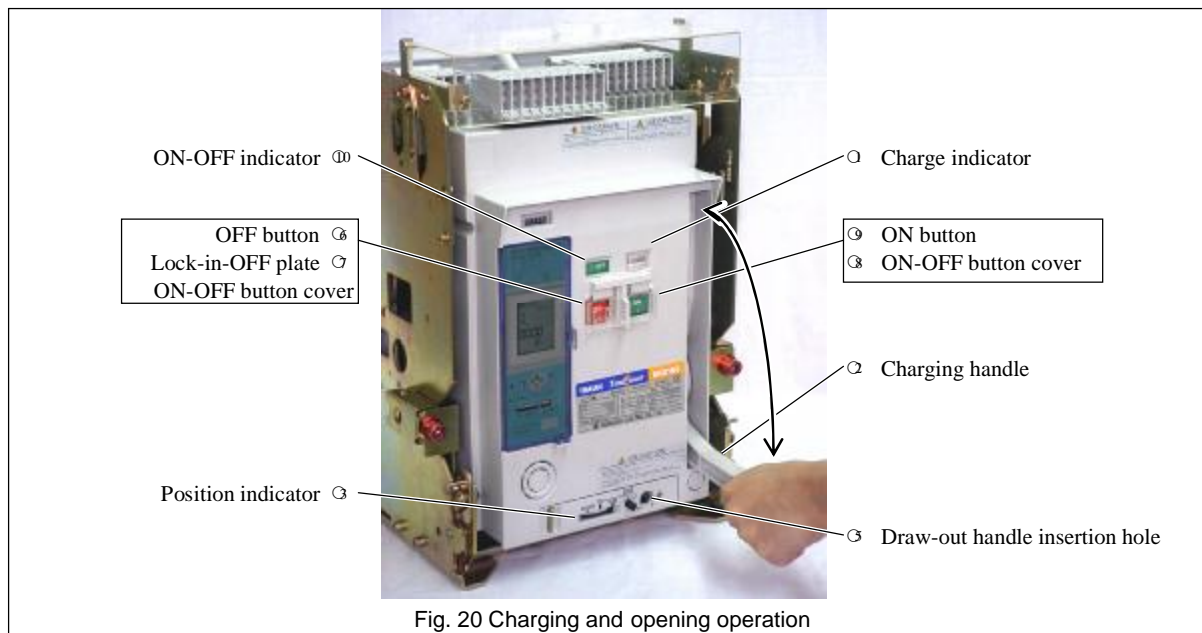

Fig. 20 Charging and opening operation
Pump the charging handle (Fig. 20 ㉑) until the charge indicator (Fig. 20 ㉒) shows "CHARGED". Pumping the handle with the full stroke 10 - 13 times will fully charge the closing springs.
When the charge indicator (Fig. 20 ㉑) changes to “DISCHARGED” while the specified operation voltage is applied to the control circuit terminals ㉒ and ㉓, the charging motor is activated to start charging the closing springs. Upon completion of the charging operation, the charge indicator shows “CHARGED” and the charging motor is automatically deactivated. The time required for the motor charging operation depends on the operation voltage or the ACB types, but does not exceed 10 seconds.
- 1) The charge indicator (Fig. 20 ㉑) shows "CHARGED".
- 2) The position indicator (Fig. 20 ㉒) shows "CONN.", "TEST" or "ISOLATED" (a halfway position not permitted).
- 3) The draw-out handle is not inserted in the draw-out handle insertion hole (Fig. 20 ㉓).
- 4) The OFF button (Fig. 20 ㉔) is not locked with the lock-in-OFF plate (Fig. 20 ㉕).
Open the ON-OFF button cover (Fig. 20 ㉖) and press the ON button (Fig. 20 ㉗). The ACB will be closed with a sound. The ON-OFF indicator (Fig. 20 ㉘) shows "ON" and the charge indicator (Fig. 20 ㉑) shows "DISCHARGED".
Press the ON switch shown in Fig. 15. The latch release coil (LRC) (Fig. 15) will be excited and the ACB is closed with a sound. The ON-OFF indicator (Fig. 20 ㉘) shows "ON", the charge indicator (Fig. 20 ㉑) shows "DISCHARGED", and the charging motor starts charging the closing springs.
Open the ON-OFF button cover (Fig. 20 ㉖) and press the OFF button (Fig. 20 ㉙). The ACB will trip open with a sound. The ON-OFF indicator (Fig. 20 ㉘) shows "OFF".
Press the OFF switch shown in Fig. 15. The shunt trip device (SHT) or the fixed type undervoltage trip device (Fig. 15) will be excited so that the ACB trips open with a sound. The ON-OFF indicator (Fig. 20 ㉘) shows "OFF".